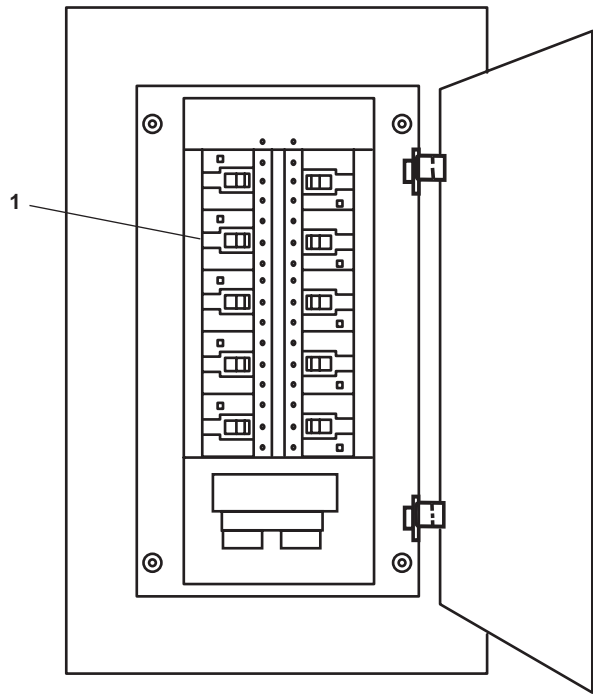

Figure 2. 440V Power Panel No. 4
4. Set to OFF the MSD DISCHARGE PUMP AND BLOWER. circuit breaker (figure 2, item 1) in 440V power panel No. 4.